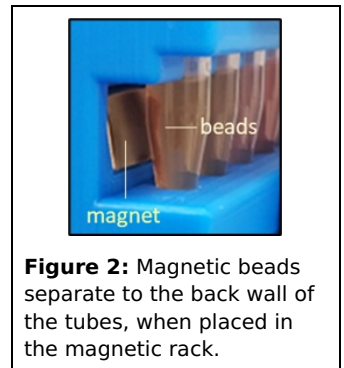

Figure 2: Magnetic beads separate to the back wall of the tubes, when placed in the magnetic rack.
8. Slide the tube rack onto the magnetic stand and allow to sit for 1-2 minutes, until the magnetic beads separate from the homogenate (Figure 2).